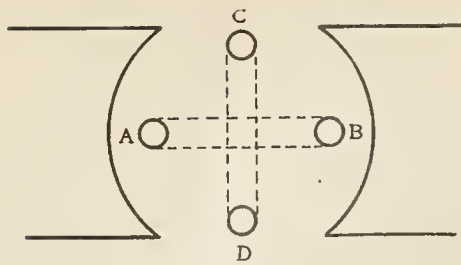
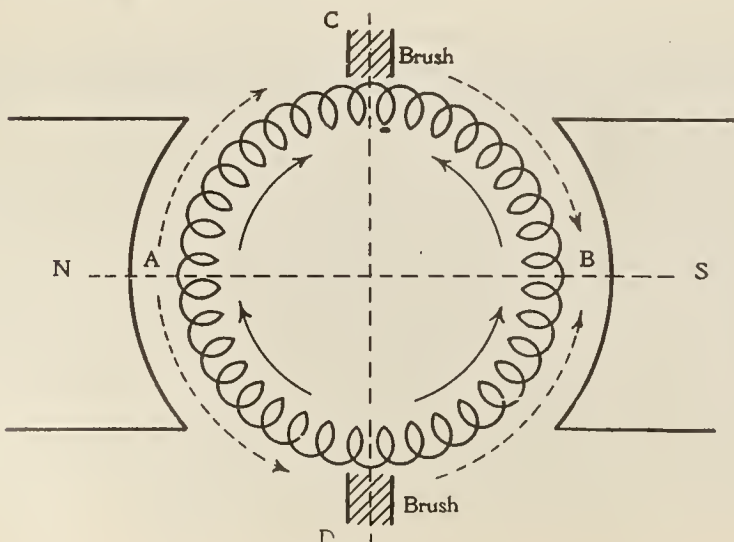

FIG. 1.
FIG. 2.
1. The electrically generated e. m. f. With an alternating field there are two distinct e. m. f.'s generated in the armature coil; the first by the movement of the coil through the field, with a maximum value when the coil is in the position AB, Fig. 1, and a zero value in the position CD; and the second by the alternating magnetism, with the maximum value occurring when the coil is in the position CD and a zero value in the position A. B. The first, or mechanically-generated e. m. f. is proportional to the speed; the second, or electrically-generated e. m. f. is proportional to the current frequency. While these two e. m. f.'s exist in the armature winding, only one—the mechanically-generated e. m. f.—appears at the terminals of the motor. The reason for this is shown by Figure 2. In this sketch the directions of the e. m. f.'s in each part of the winding, at one instant, are shown by the arrows, the full arrows representing the mechanically-generated e. m. f., and the dotted arrows the electrically-generated e. m. f. On the two sides of the line C D the mechanically-generated e. m. f. is in opposite directions, and on the two sides of the line A B the electrically-generated e. m. f. is in the opposite directions. It is evident from Figure 2 that so far as the outside circuit is concerned the electrically-generated e. m. f. neutralizes itself, and plays no part in determining the current taken by the motor. This is only true when the brushes are on the